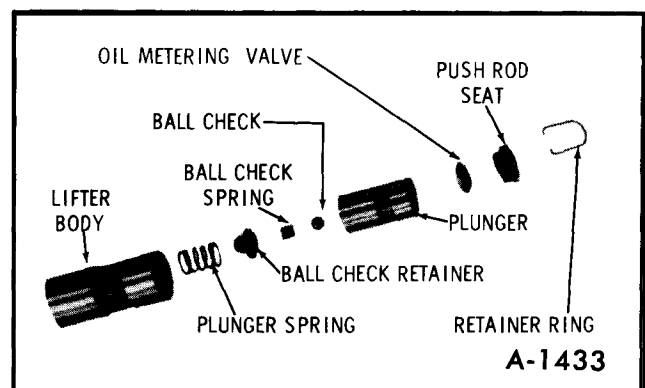

Figure 26—Valve Lifter—Exploded View
1. Assemble ball check, spring and retainer into plunger. See Figure 26. Make sure retainer flange is pressed tight against bottom of recess in plunger.